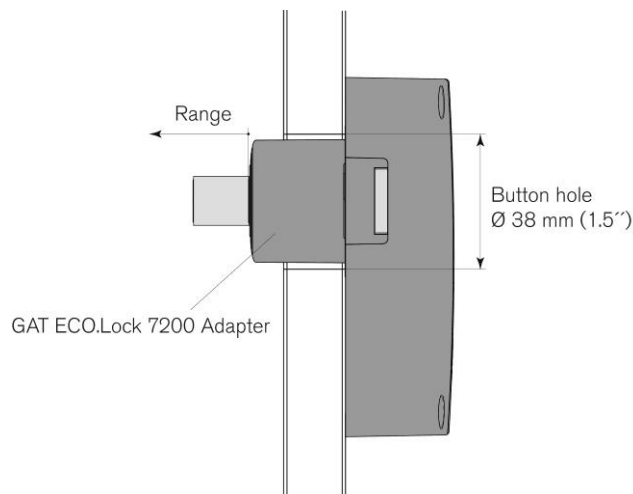

Figure 3.7 – Diameter of the button drill hole for metallic doors and mounting the GAT ECO.Lock 7200 Adapter
- ▶ Attach the GAT ECO.Lock 7200 Adapter as shown in Figure 3.7.